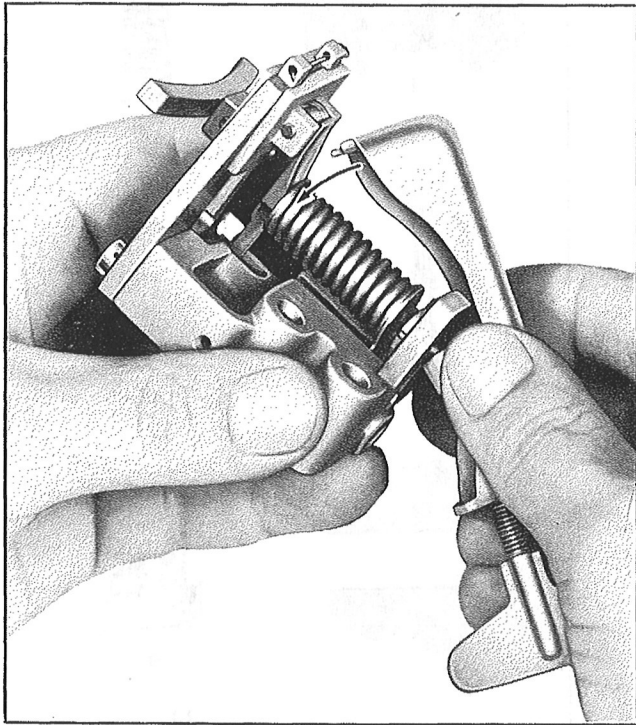

Figure 195—Installation of the Governor Spring Clamp
*Step 1.*—Place the Governor Spring Clamp, Figure 66-7 over the end of the governor adjusting screw and the spring guide on the lever arm, as shown in Figure 195.